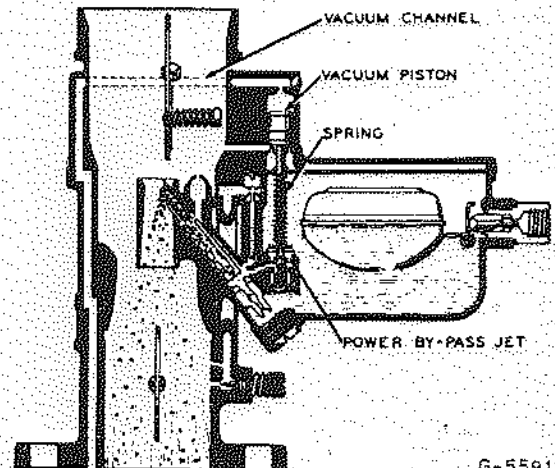

Fig. 10 - Power System
**Power system** - The power system is incorporated into the carburettor to provide a richer mixture of fuel for maximum power and high speed operation. The extra fuel for power is supplied by a vacuum controlled power piston which automatically operates the power by-pass jet in accordance with throttle opening. Intake manifold vacuum is maintained above the vacuum piston through a vacuum channel which leads to the manifold flange of the carburettor (see Fig. 10).